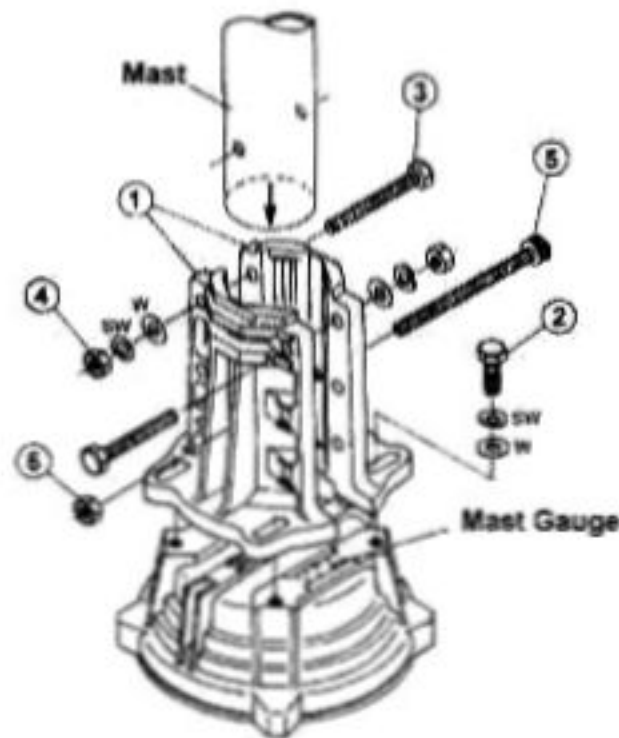

Figure 13
4. Partly tighten the mast clamp ① to the rotator housing using the supplied M8 x 30 bolts ②, spring washers and flat washers (see Figure 13).
5. Using a "gin pole" or other raising fixture, insert the antenna mast through the bearing from above, and set the mast in the rotator's mast clamps, then partly tighten the mast clamps using the supplied M8 x 70 bolts ③, spring washers and flat washers.
6. Pass the supplied M8 x 95 screw ④ through the mast clamps and through the mast, then partly tighten it using the supplied nut ⑤.